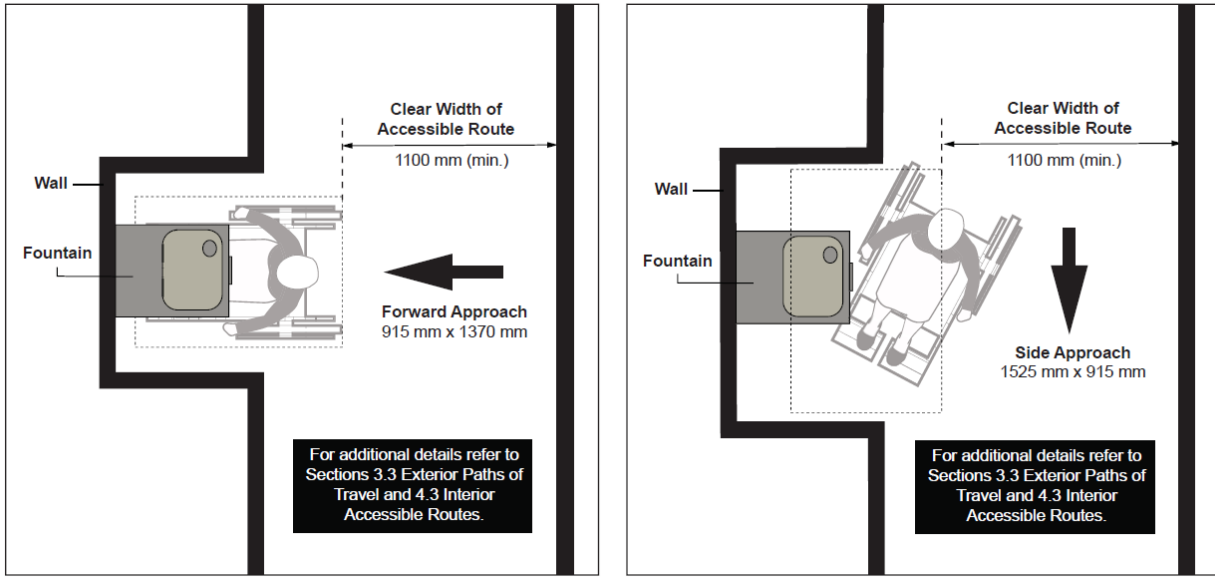

Figure 40: Clear Floor Space Requirements and Approach at Recessed Drinking Fountain – Plan View
- Provide clear floor space of 915 mm wide by 1370 mm deep (minimum) in front of the drinking fountain and bottle filling station for a forward approach (see Figure 40)
- For a side approach, provide clear floor space of 1525 mm wide by 915 mm deep (minimum) in front of the fountain/station (see Figure 40)